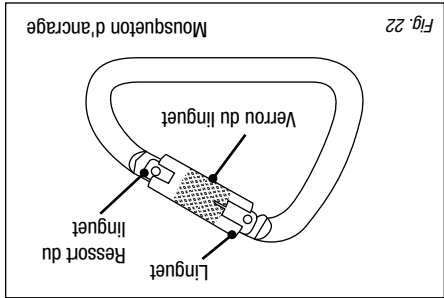

Fig. 22
- d) the safety bar of the autolocking carabiner must complete its rotation when closed (Figure 22).
- d) le verrou du linguet du mousqueton complète sa rotation lorsque fermé (Figure 22);